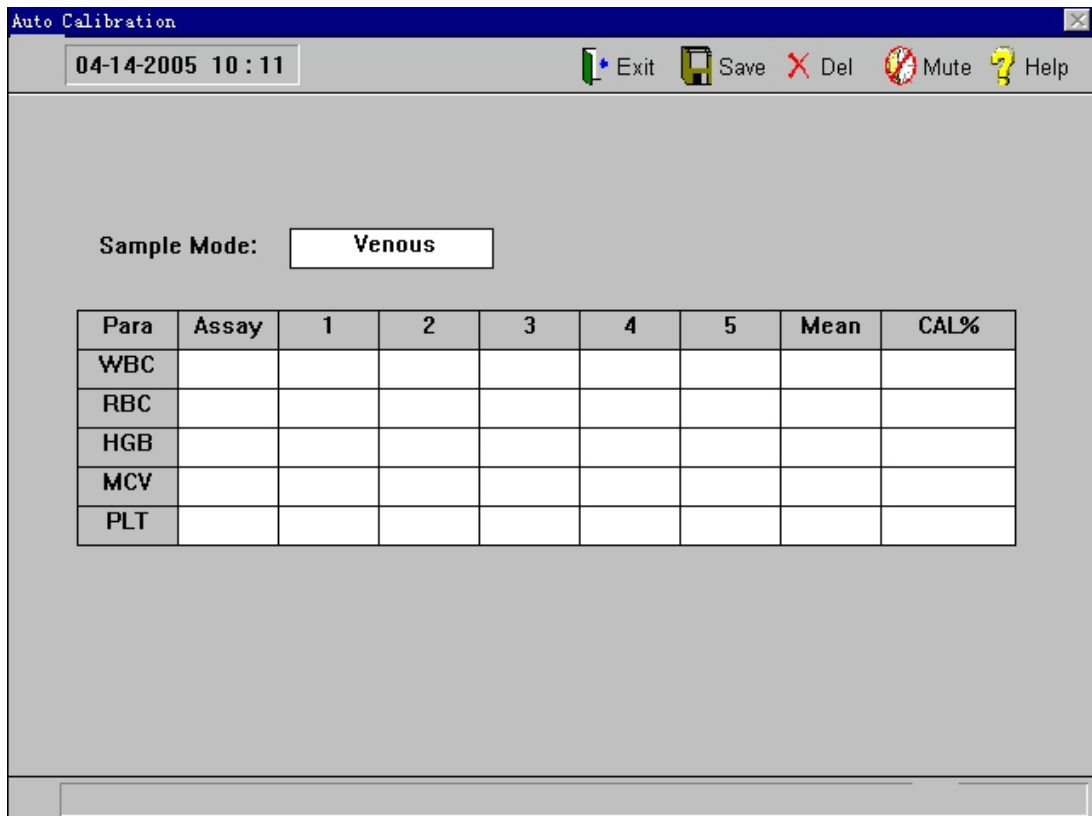

Figure 5-2
- In the blood cell analyzer windows, press right key of the mouse, pops up the menu ,select “Autocalibration” in the menu, the instrument enter the auto calibration window, as shown in figure 5-2.